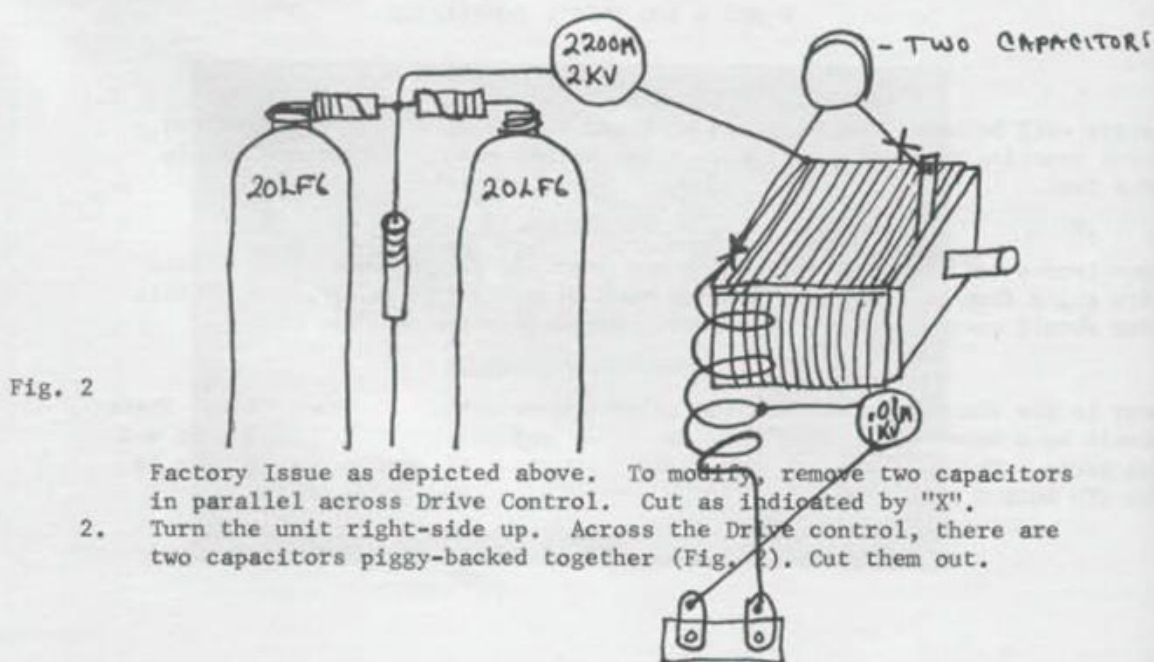

Fig. 2
2. Turn the unit right-side up. Across the Drive control, there are two capacitors piggy-backed together (Fig. 2). Cut them out.